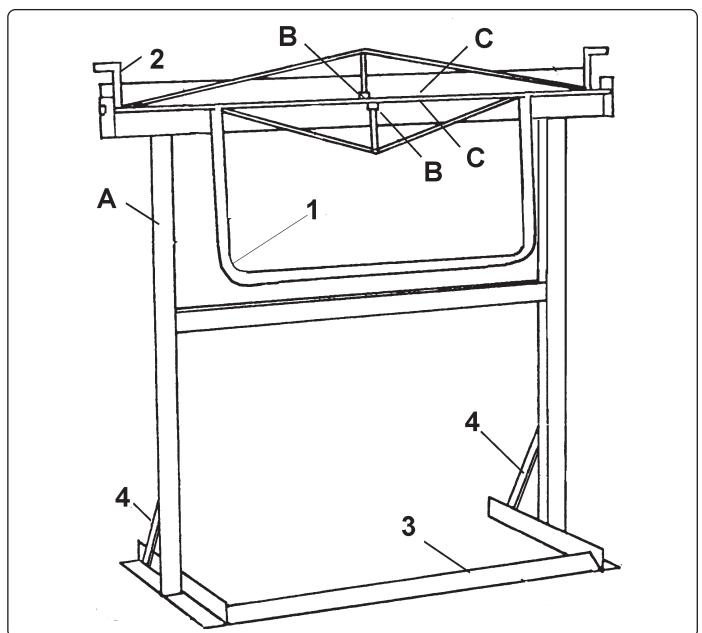

Fig.1
- 5.1. Lay the folder main frame (fig.1.A) on the floor with the top folding plate (fig.1.1) uppermost.